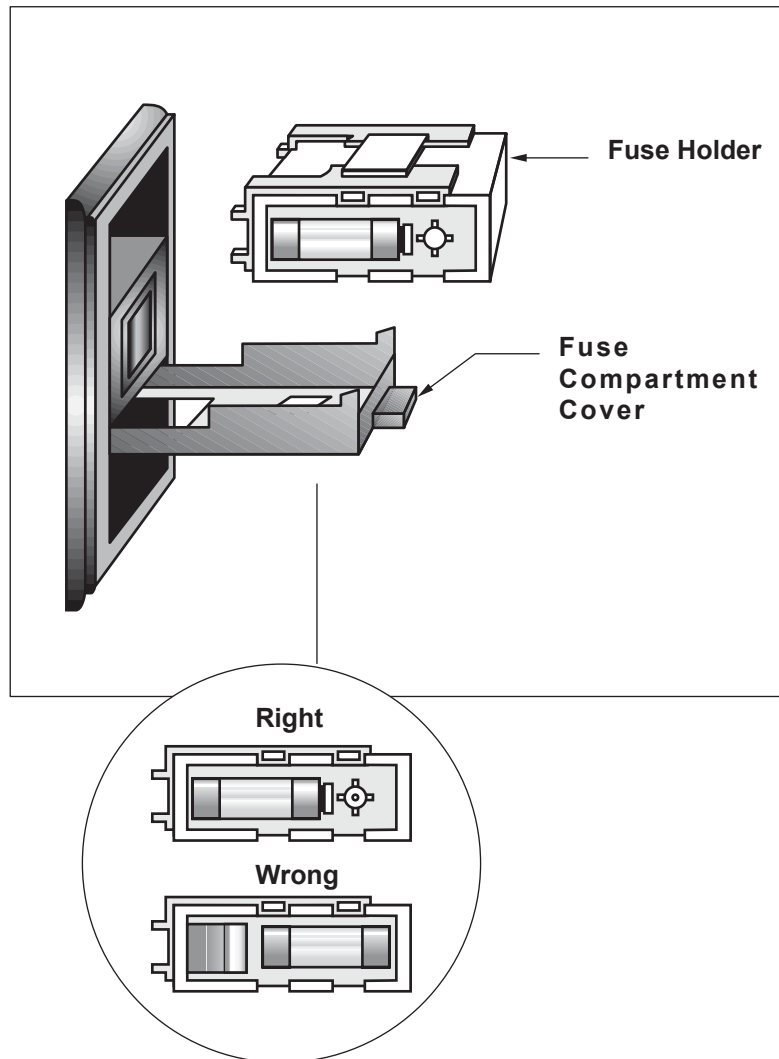

Figure 4.2 Changing the fuses
5. Replace the proper size fuse into the holder. Be sure that the end of the fuse is in contact with the end of the cartridge so that the proper electrical connection is made (Fig. 4.2).